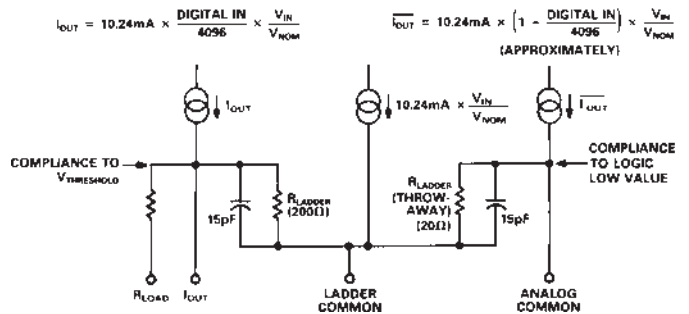

Figure 4. Equivalent Output Circuit
1Measured in  $I_{\text{OUT}}$  mode. Specified at nominal 5 V full-scale reference.2Measured in  $V_{\text{OUT}}$  mode, unless otherwise specified. Specified at nominal 5 V full-scale reference.3Total resistance. Refer to Figure 4.4At the major carry, driven by HCMOS logic.5 $V_{\text{OUT}} = 1 \text{ V p-p}$ ,  $V_{\text{IN}} = 10\%$  to  $110\%$ , 100 kHz. Digital Input All 1s.6 $V_{\text{IN}} = 200 \text{ mV p-p}$ , 1 MHz Sine Wave. Digital Input all 0s. See Figure 20.7Measured at  $15 \text{ V} \pm 10\%$  and  $12 \text{ V} \pm 10\%$ .Specifications shown in **boldface** are tested on all production units at final electrical test.
The AD668 has an output compliance range of -2.0 V to +1.2 V (with respect to the LCOM pin). The current steering output stages will be unaffected by changes in the output terminal voltage over this range. However, as shown in Figure 4, there is an equivalent output impedance of 200  $\Omega$  in parallel with 15 pF at the output terminal, producing an equivalent error current if the voltage deviates from the ladder common. This is a linear effect which does not change with input code. Operation beyond the maximum compliance limits may cause either output stage saturation or breakdown, resulting in non-linear performance. The positive compliance limit is not affected by the positive power supply, but is a function of the output current and the logic threshold voltage at  $V_{TH}$ , Pin 13.
The internal wiring and pinout of the AD668 are dictated in large part by current management constraints. When using low impedance, high current, high accuracy parts such as the AD668, great care must be taken in the routing of not only signal lines, but ground and supply lines as well. The following accounting provides a detailed description of the magnitudes and signal dependencies of the currents associated with each of the part's pins. These descriptions are consistent with the functional block diagram as well as the equivalent circuits provided in Figures 4, 5, and 6.
**IOUT** – the output current. In the current output mode with this node tied to a virtual ground, a 10.24 mA nominal full scale output current will flow from this pin. In the voltage output mode, with  $R_L$  grounded, half of the output current will flow out of  $R_L$  and the other half will flow out of LCOM. External resistive loading will cause current to be divided between LCOM,  $R_L$ , and  $I_{OUT}$  as Figure 4 suggests.
**ACOM** – as indicated in Figure 4, the current flowing out of this pin is effectively the complement of IOUT, varying with both analog and digital inputs. Using this current as a signal output is not generally advised, since it is untrimmed and its positive output compliance is limited to the logic low voltage.